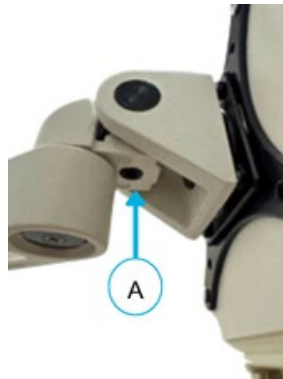

Figure 14-10: Monitor Alignment
3. Insert a **7/32" Allen wrench** into the hex screw at the base of the Monitor Support Bracket on the back of the Monitor (**A** on **Figure 14-10**).